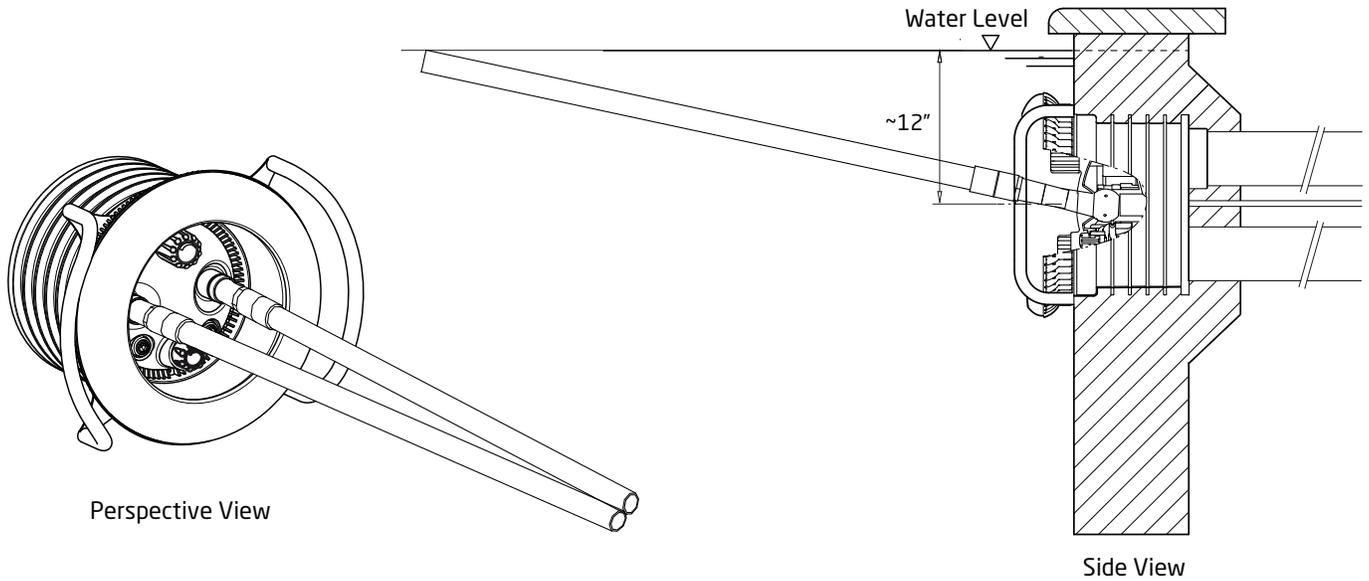

Figure 25
3. Once that is complete, bring the blue nozzle tool up to where the end of the nozzle tool breaks the surface of the water. Then bring the two nozzle tools together to meet. (See Figure 25)